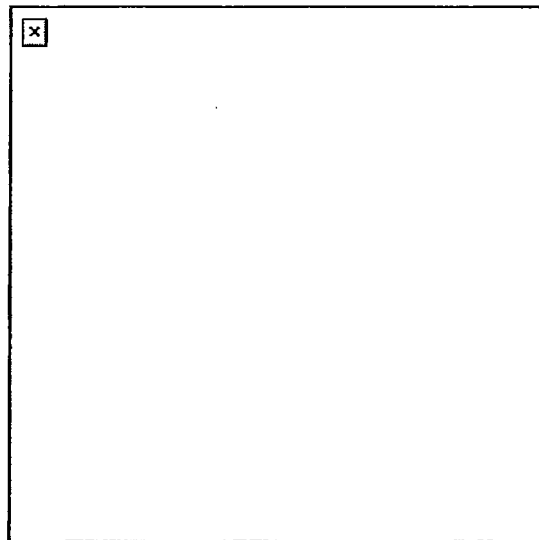

Figure 1. Removal of round or spent case.
**Standards:** Unload the MK 19 machine gun, removing ammunition and empty casings. Clear the weapon, making sure the chamber is empty and the safety switch is in the safe (S) position.
1. Place the safety switch on the safe (S) position.
- a. Insert the tip of a cleaning rod through the right hand rail as close to the bolt face as possible (Figure 1).